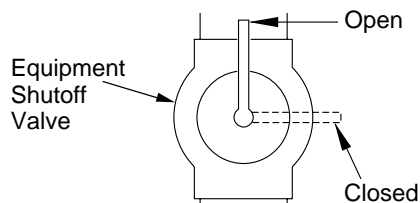

Figure 27 - Equipment Shutoff Valve
1. Close equipment shutoff valve (see Figure 27, page 18).
1. Open equipment shutoff valve (see Figure 27).